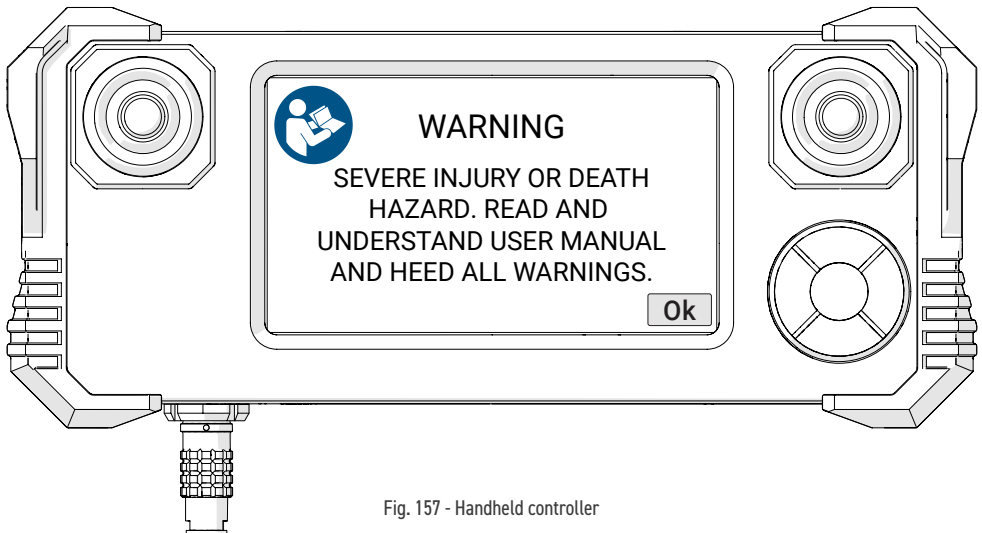

Fig. 157 - Handheld controller
4. A warning message will display on the handheld controller when power has been activated. Once the dangers of using the **SERKO** are recognized and understood by reading this user manual, touch **Ok** to acknowledge the warning (Fig. 157).